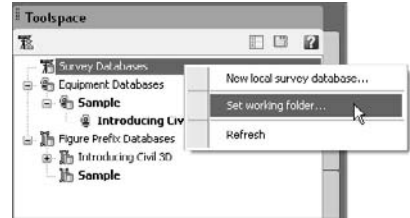

Figure 4.11
3. Right-click the Survey Databases entry and choose Set Working Folder (Figure 4.11). The Browse for Folder dialog will appear.